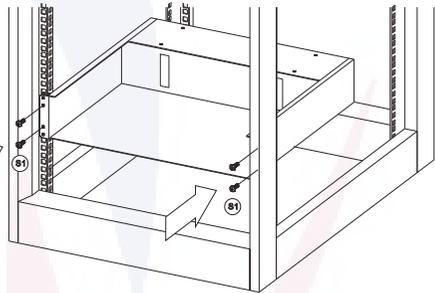

Figure 2
4. Affix the backplate (Figure 1) onto the ATS (Figure 2). Affix the ATS onto the frame of the chassis (Figure 3).
4. Affix the backplate (Figure 1) Affix the ATS onto the frame of the Maintenance Box (Figure 2) .